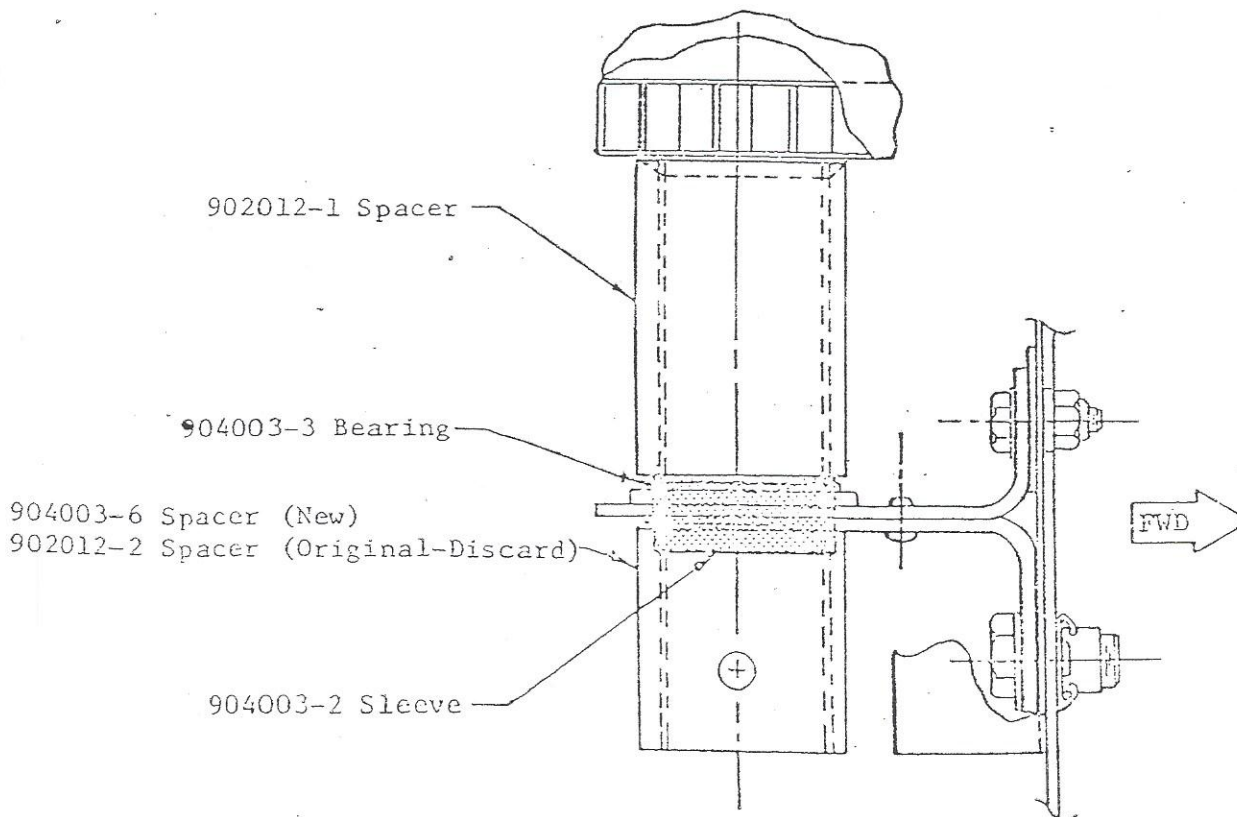

FIGURE 6. LOWER RUDDER BEARING REPAIR
12. Slide a 902012-1 spacer in place against lower rudder rib. Then slide a 904003-2 sleeve in place against spacer and lock in place with "Loctite #601 or #74 Nut Lock" or equivalent. (See Figure 6).
18. Reinstall rudder on aircraft in reverse of removal procedure, except install a 904003-6 spacer on rudder torque tube below lower bearing support in place of original 902012-2 spacer. (See Figure 6).